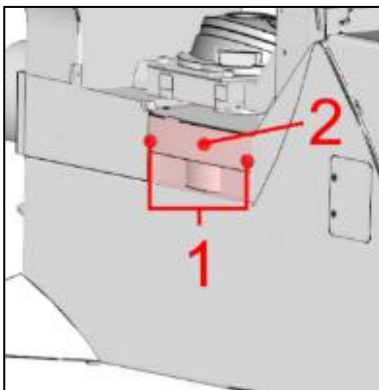

Figure 59: Filter cube cover on the microscope, left
1. Unscrew the two screws (Figure 59, position 1).
2. Remove the filter cube cover (Figure 59, position 2). Now you have access to the filter cube turret.